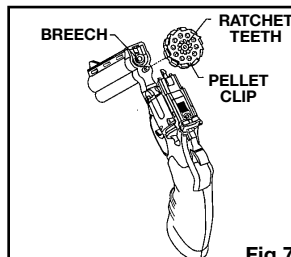

Fig 7
- Replace the pellet clip on the barrel (ratchet teeth facing you). (Fig 7)
- Replace the empty pellet clip (ratchet teeth side facing you) on the barrel (See Fig. 7).